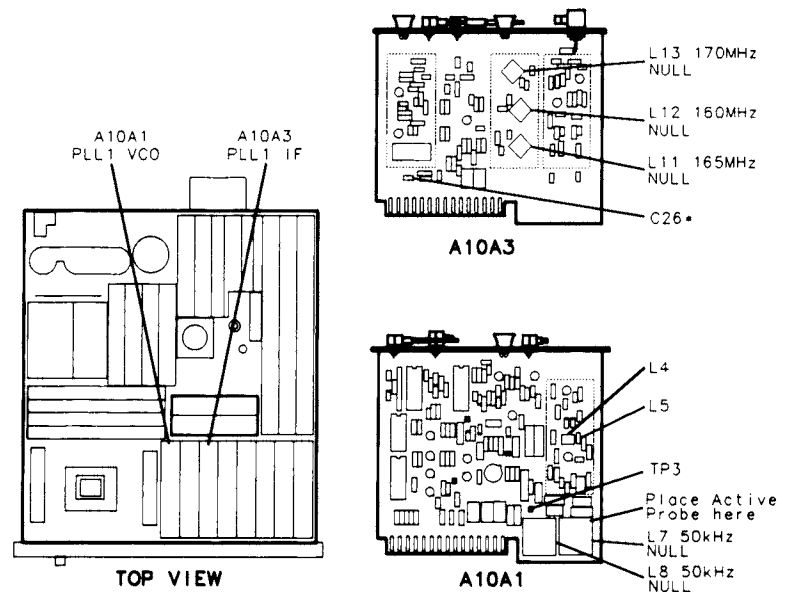

Figure 3-78. Location of PLL1 Adjustments
8. Connect the active probe tip to the lead of A10A1L7 closest to A10A1C22, as indicated in Figure 3-78. The 20 kHz signal (from the 40 kHz LPF) should be visible on the display of the second spectrum analyzer.
11. Adjust A10A1L7 and A10A1L8 50 kHz NULL adjustments to minimize the amplitude of the 50 kHz signal displayed on the second spectrum analyzer. Refer to Figure 3-78 for the location of A10A1L7 and A10A1L8 50 kHz NULL adjustments.
34. Adjust A10A3L13 170 MHz NULL to minimize the amplitude of the 170 MHz signal displayed on the second spectrum analyzer. Refer to Figure 3-78 for the location of A10A3L3 170 MHz NULL adjustment.
36. Adjust A10A3L11 165 MHz NULL to minimize the amplitude of the 165 MHz signal displayed on the second spectrum analyzer. Refer to Figure 3-78 for the location of A10A3L11 165 MHz NULL adjustment.
38. Adjust A10A3L12 160 MHz NULL to minimize the amplitude of the 160 MHz signal displayed on the second spectrum analyzer. Refer to Figure 3-78 for the location of A10A3L12 160 MHz NULL adjustment.
If it is not, a lower value can be selected for factory-select component A10A3C26 to improve the impedance match between the double-balanced mixer A10A3U1 and the IF Input Amplifier circuit on A10A3 PLL1 IF Assembly. Refer to Table 3-3 for the acceptable range of values for A10A3C26, and to Table 3-4 for HP part numbers; refer to Figure 3-78 for the location of A10A3C26.
If it is not, slightly readjust A10A3L11 165 MHz NULL to increase the amplitude of the 140 MHz signal displayed on the second spectrum analyzer to -14 dBm. Refer to Figure 3-78 for the location of A10A3L11 165 MHz NULL adjustment.